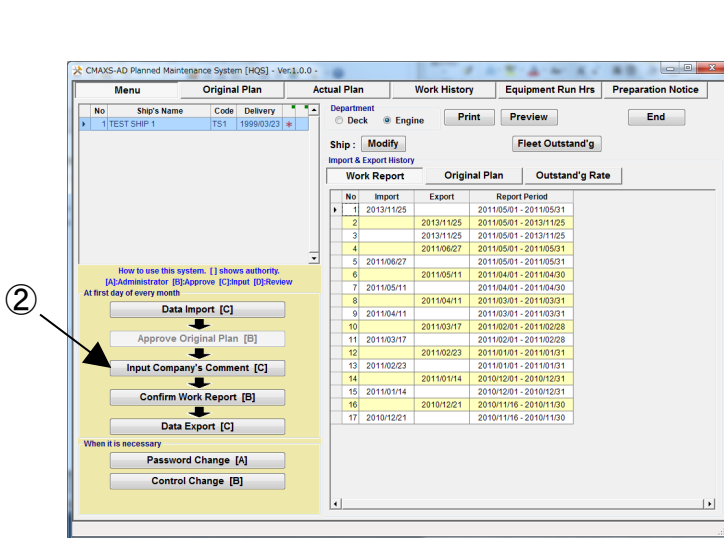
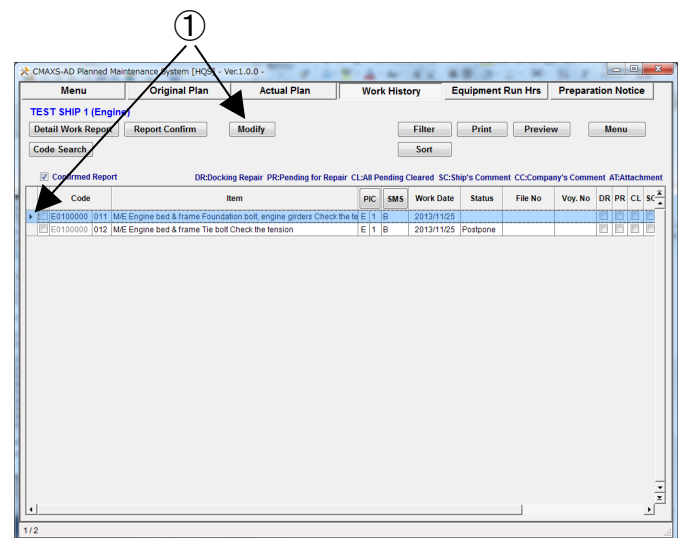

Fig.8-1 Menu Screen
Fig.8-2 Work History Screen
- (1) On the "Menu Screen"(Fig.8-1), select [Input Company's Comment]. "Work History Screen"(Fig.8-2) is displayed.